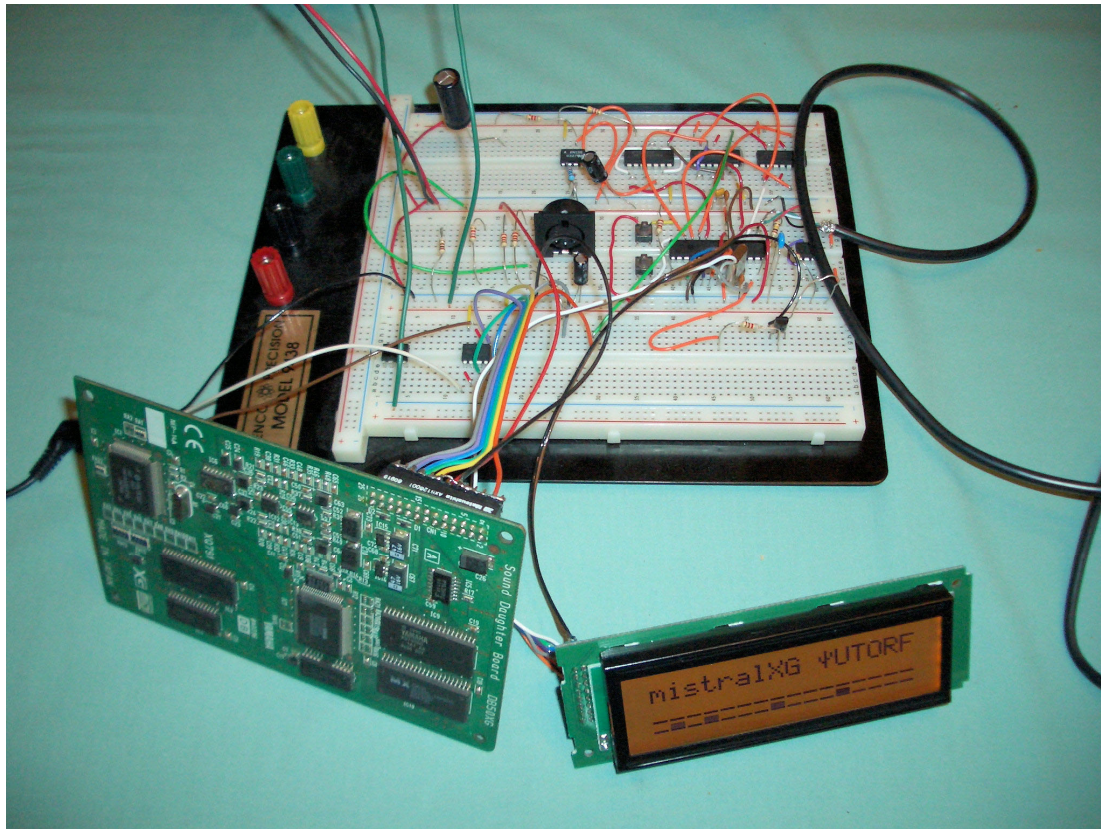

Figure 2. mistralXG prototype
Ok, so that’s a whistle-stop tour of the main technologies used in *mistralXG*. Now let’s look at how the user interacts with the unit, leaving the technical detail to the next article. As a taster, though, you can see the prototype in Figure 2.
- Real-time MIDI activity monitor: the second row shows MIDI IN (top line) and MIDI OUT (bottom line) activity. In Figure 2, shows data being transmitted from the PC on channels 1, 3, 5, 6, 7 and 10 (left to right). No data is being transmitted to the PC (all channels are low on the top line). The MIDI IN monitor remains active even when mistralXG is not connected to your PC.